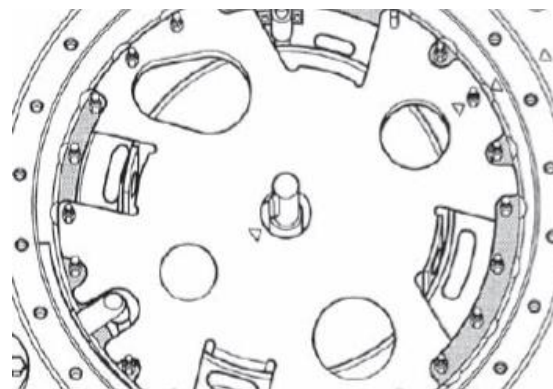
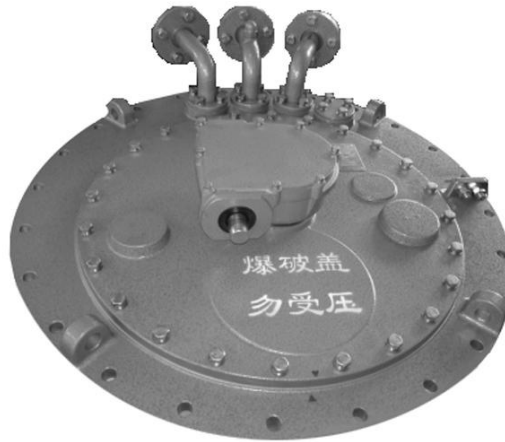

Figure 29
Figure 30
- (9) Install the diverter switch core
- c. The calibration mark (red triangle) on the diverter switch core support plate and the tap changer head (Fig. 29) must be aligned with each other.
- (10) Put the switch head cover and cover the tap changer. The O-ring on the head cap must be placed in the correct position.
- (11) Evenly tighten the 24 M12 bolts on the cover of the tap-changer with a tightening torque of 34 Nm (Fig. 30).